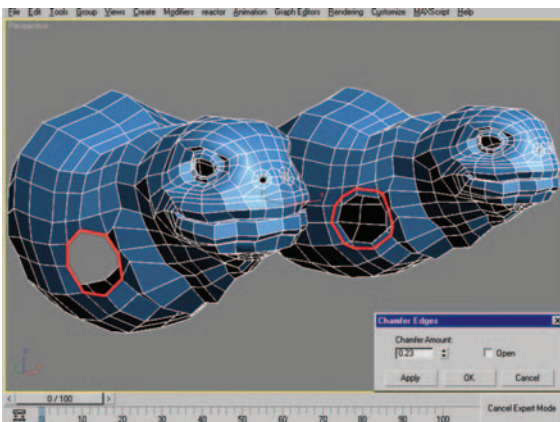

Figure 9.43 Edge selection before and after chamfering.
4. Select the border and use Chamfer settings to create an additional edge loop as seen in Figure 9.43.